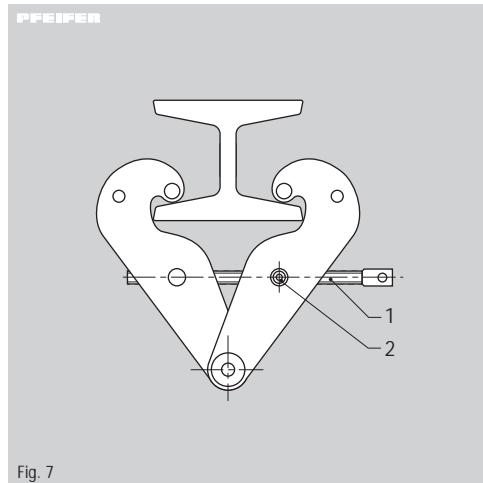

Fig. 7
1. Use a hex socket wrench to loosen the locking screw (2) if present (Fig. 7).
2. Use the handle of the tie rod (1) to open the arms to a distance that enables the beam clamp to be fitted onto the beam (Fig. 7).
3. Use the handle of the tie rod (1) to close the arms of the beam clamp until they make light contact with the beam.
4. Tighten the locking screw (2), if present, to secure the tie rod (1) against loosening (Fig. 7).